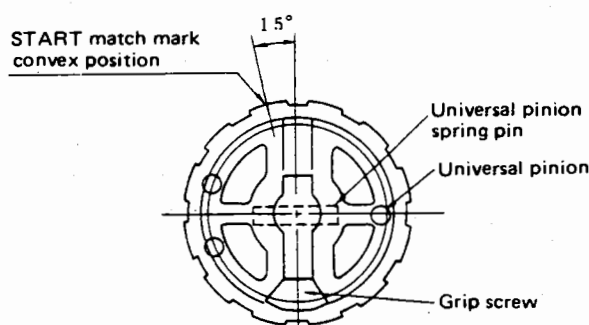

Fig. 92
- 4) The method of assembling the universal pinion, grip screw and throttle shaft B is as shown in the diagram below. (Fig. 92)